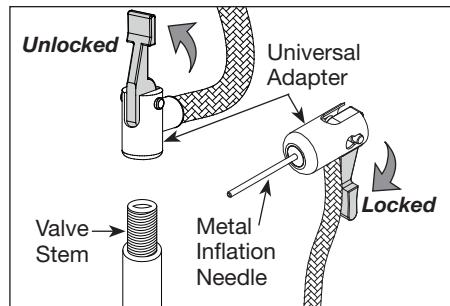

Figure 2 - Lock Universal Adapter Securely
3. When the universal adapter is firmly in place, press the locking lever down. (See Figure 2).
If inflator immediately stops inflating and shuts off, make sure the universal adapter is pressed fully on to the tire valve stem or the metal inflation needle is inserted correctly (See Figure 2).
2. When the universal adapter is firmly in place, press the locking lever down. (See Figure 2).
If inflator immediately stops inflating and shuts off, make sure the universal adapter is pressed fully on to the tire valve stem (See Figure 2).